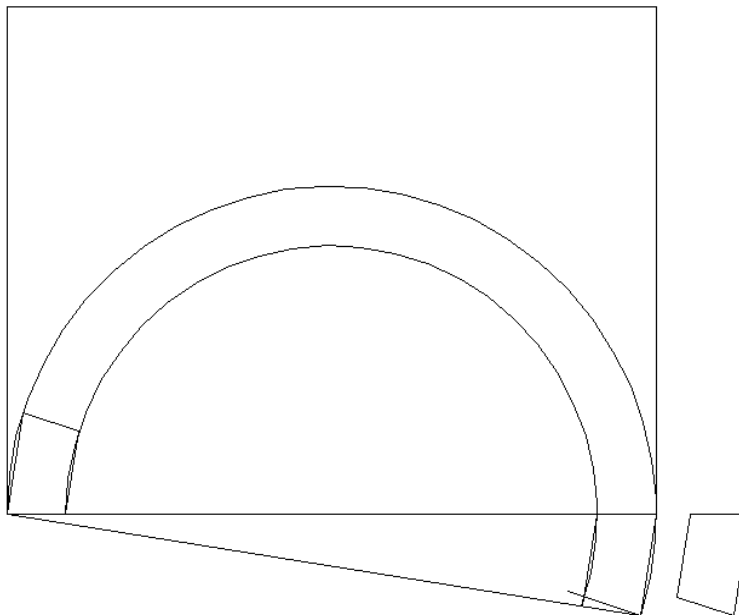

Figure 13.8
8. But you may not want such half-sized blocks supporting your arch. It will be an easy matter to enlarge them somewhat by drawing yet another line from the base corner of block I to block A, and adjusting their design somewhat with a flattened base, as we show in **Figure 13.8**. Because these two blocks will fit snugly up against the wall and are somewhat different in shape than all the other voussoirs, we can refer to them by their proper names, impost blocks. Such blocks are usually upright affairs at the “springing” of the arch, or where the arch kicks off from the supports at each end.